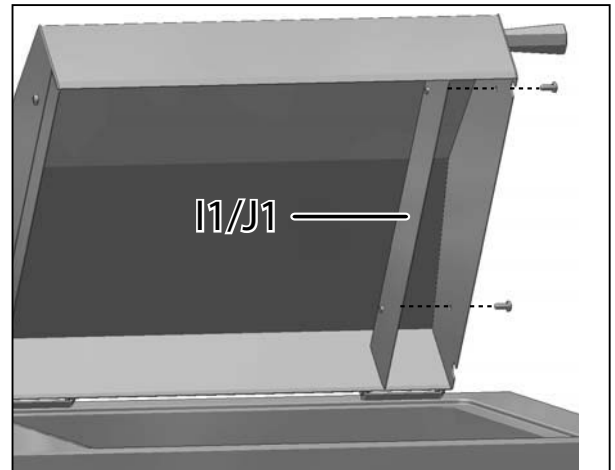

Fig. 22 Assemble the closing panel
3. Attach the closing panel I1/J1 with two supplied screws on the right side of the inside of the lid (Fig. 22). (This is to prevent heat loss through the cut-out in the lid for the tube suspender.)